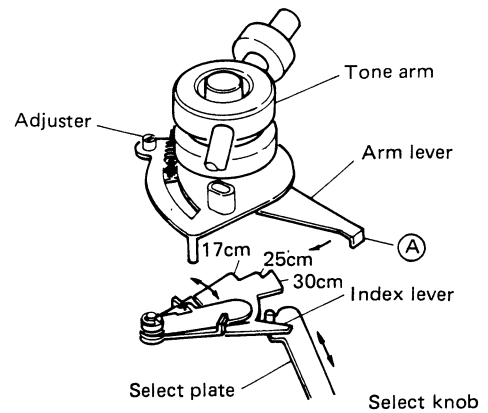

Fig. 10
The stylus is positioned at the beginning of a record according to the record size (17, 25, or 30cm) chosen with the Record Size Select knob. The stylus position is determined by one of three steps on the index lever shown in Fig. 10. Part (A) of the arm lever engages the corresponding step on the index lever. Turning this eccentric adjustment screw will move the arm lever to fine-adjust the stylus lead-in position.